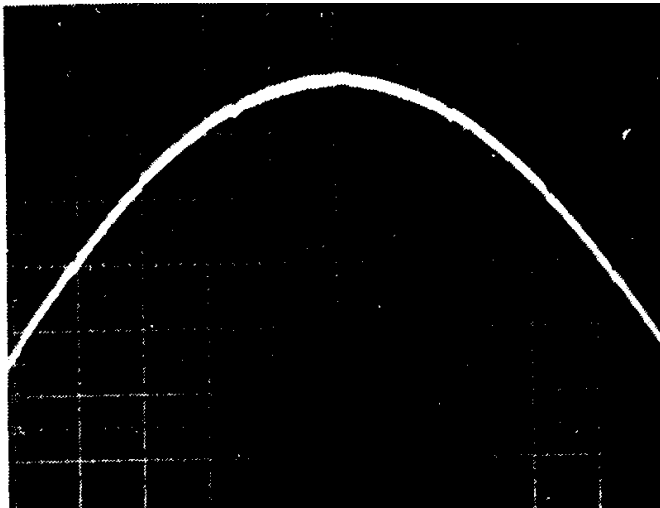

Figure 5-6
- g. Perform A/D Phasing check at 25 kW. Refer to Figure 5-6.